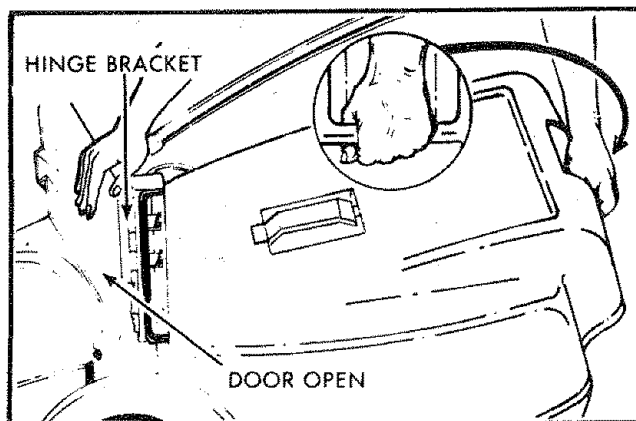

FIG. 9
2. Holding the catcher by the handle, place catcher frame onto hinge bracket (Fig. 9).